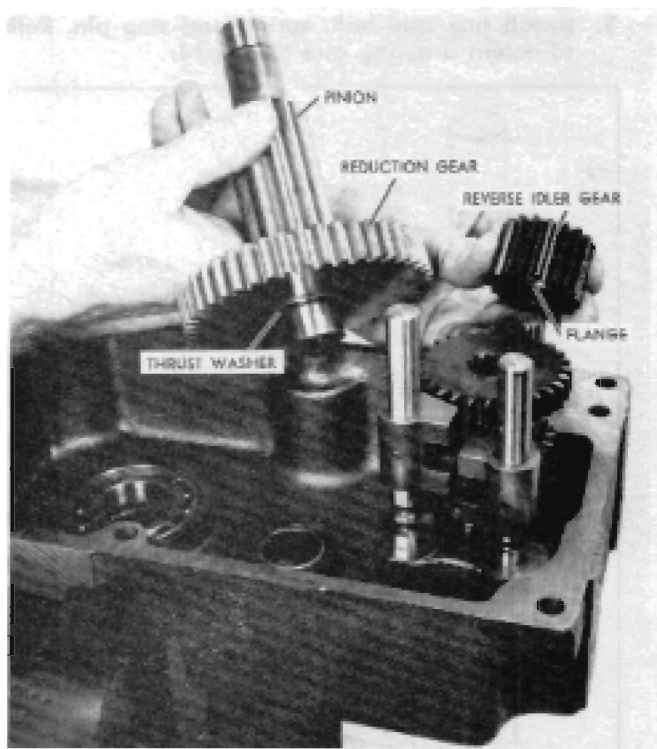

FIGURE 6
12. Remove the large pinion and reduction gear assembly, (and the thrust washer if used) and the reverse idler gear. See Figure 6.